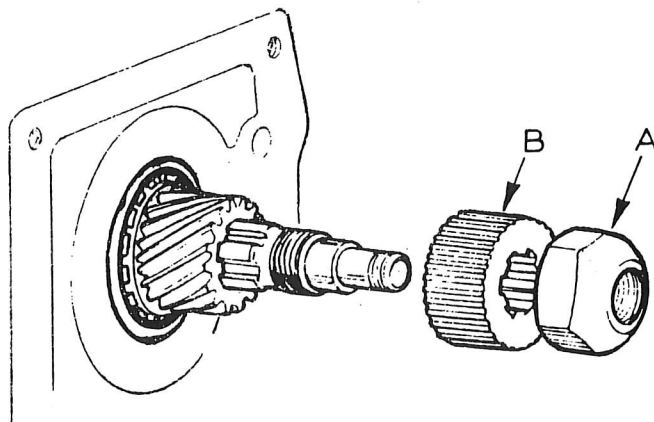

Fig. 15. 5th. GEAR PINION, ADAPTOR AND NUT
3. Lock in any two gears and remove nuts from both ends of layshaft, noting that they are secured with lockwashers. Note that the front nut is threaded left-hand, whereas the rear nut is threaded right-hand. Remove the nut (A, Fig.15) at the rear end of the third motion shaft, (Left-hand thread).
- Using a suitable puller, remove the output shaft (tailshaft) adaptor (B, Fig.15).